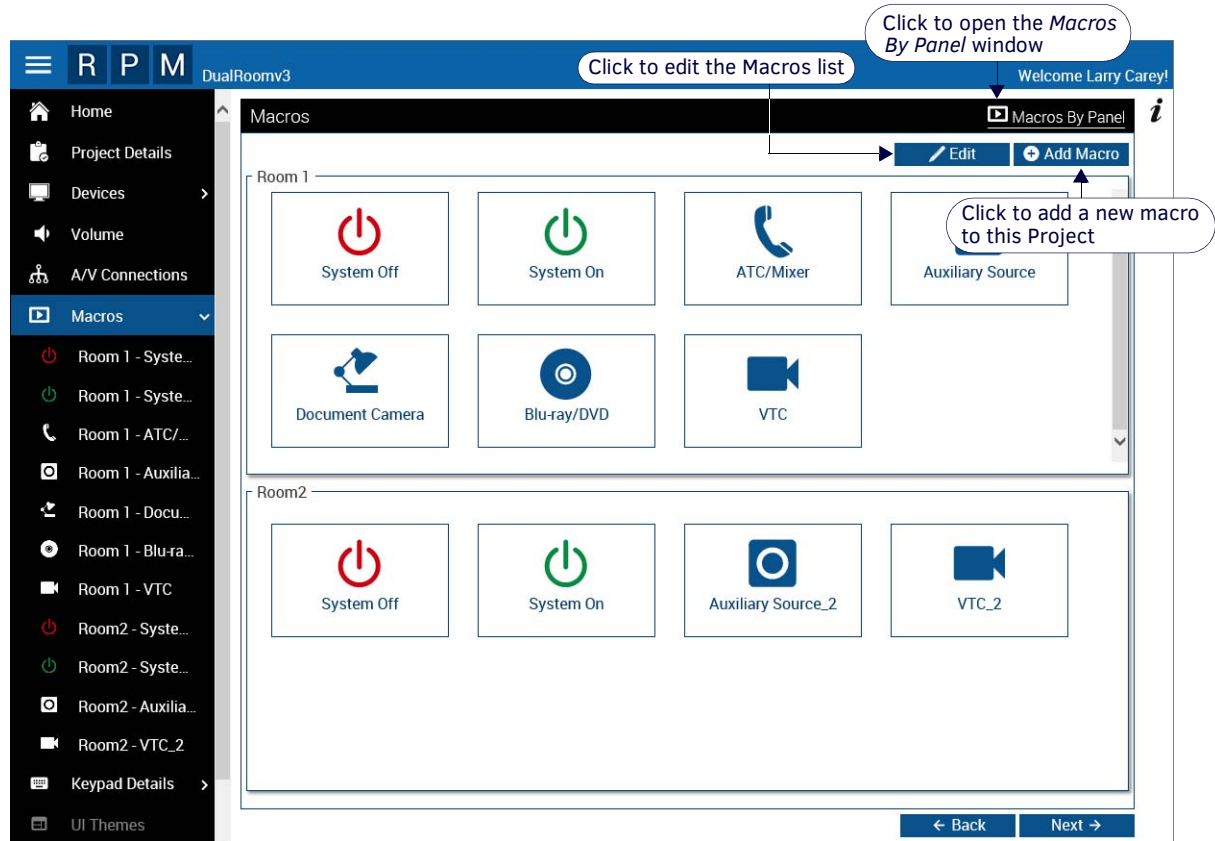
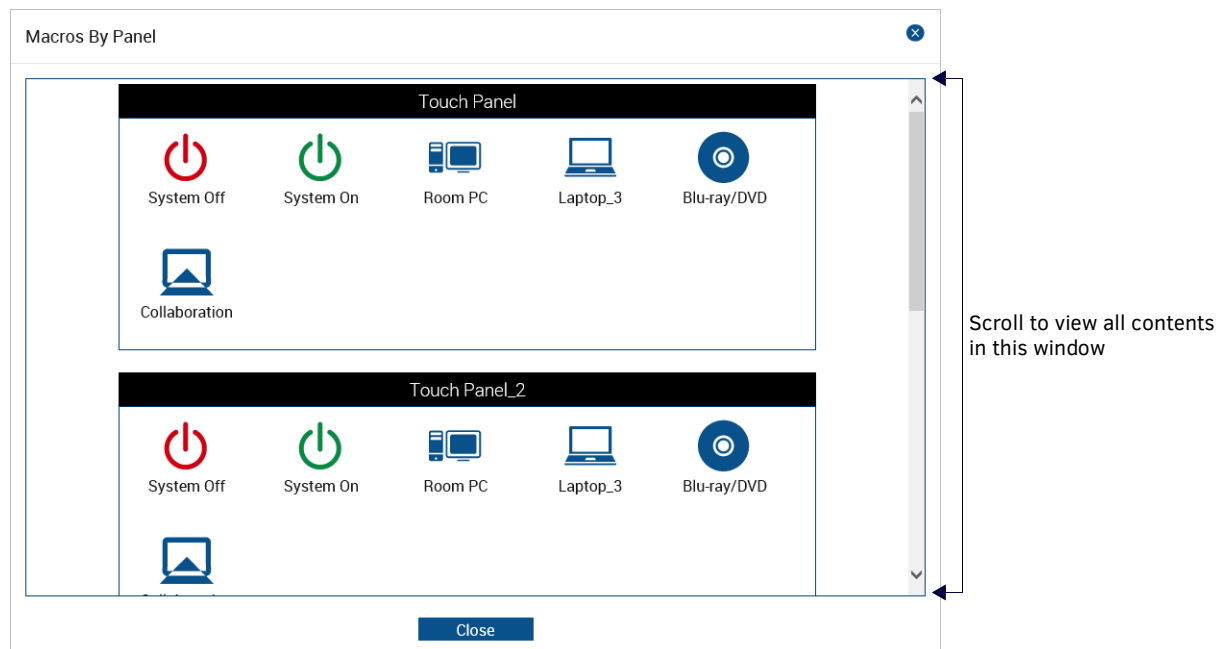
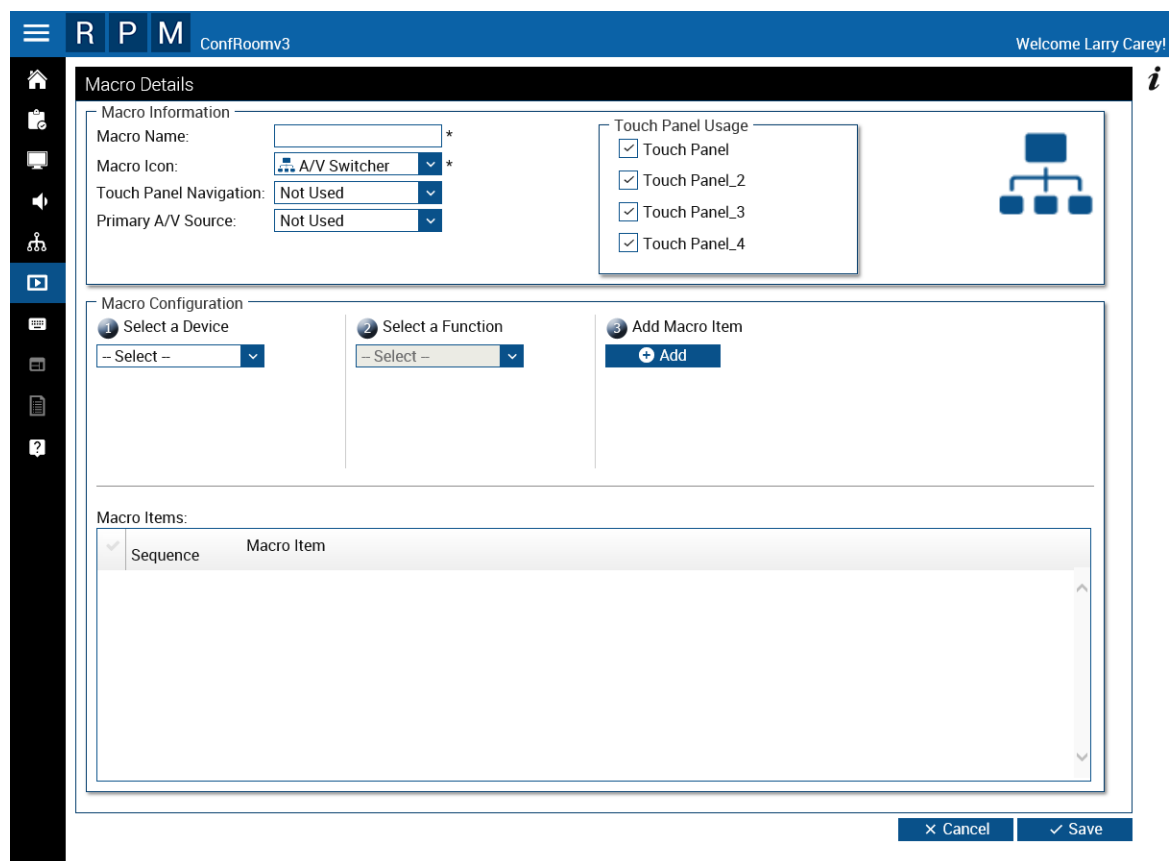

FIG. 55 RPM - Macros page
FIG. 62 Macros By Panels window
FIG. 63 Macro Details page for a new macro
A *Macro* is a set of sequential commands or device functions that are combined together, so that the user can initiate a series of events via a single button press. RPM supports the creation of macros, via options in the *Macros* page (FIG. 55):
NOTE: The example shown in FIG. 55 is for a Dual Room project (see "Room 1" and "Room 2").
Click the **Macros by Panels** button on the *Macros* page (see FIG. 55 on page 35) to view a listing macros that are assigned to each a panel in the project (FIG. 62):
1. In the *Macros* page, click **Add Macro** (see FIG. 55 on page 35) to open the *Macro Details* page for a new macro (FIG. 63):